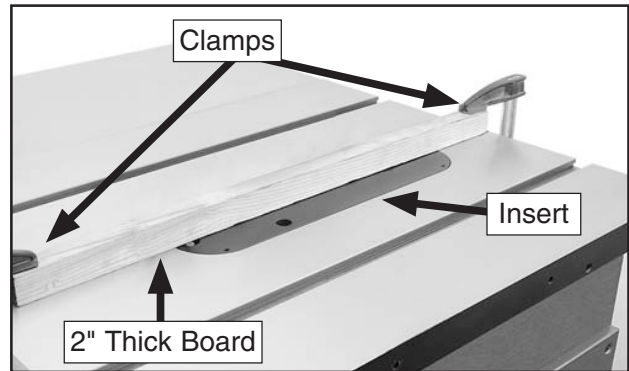

Figure 73. Securing insert with board and clamps.
5. Center a board at least 2" thick and equal to the length of the table over the rear opening of the insert, then secure it with clamps at both ends, as shown in **Figure 73**. This will provide extra support for the insert and reduce tear out when cutting.